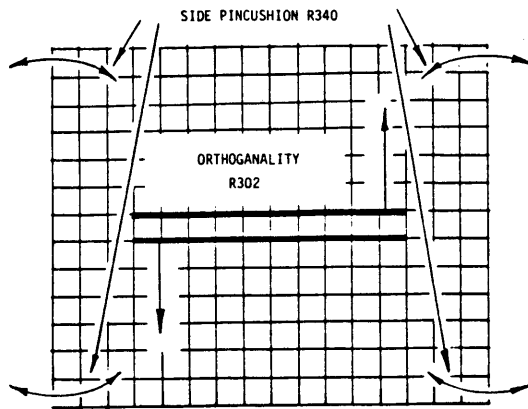

Figure 5. Effects of R302 and R340.
- H. Adjust Orthogonality (R302) so that the two middle horizontal lines are straight and level beneath the two center rows of circles (perpendicular to the center vertical line). See Figure 5.
- I. Adjust Side Pincushion (R340) so that the outermost vertical lines are as straight as possible (Figure 5). These lines may or may not fall beneath the appropriate circles at this time as a keystone effect may be apparent.